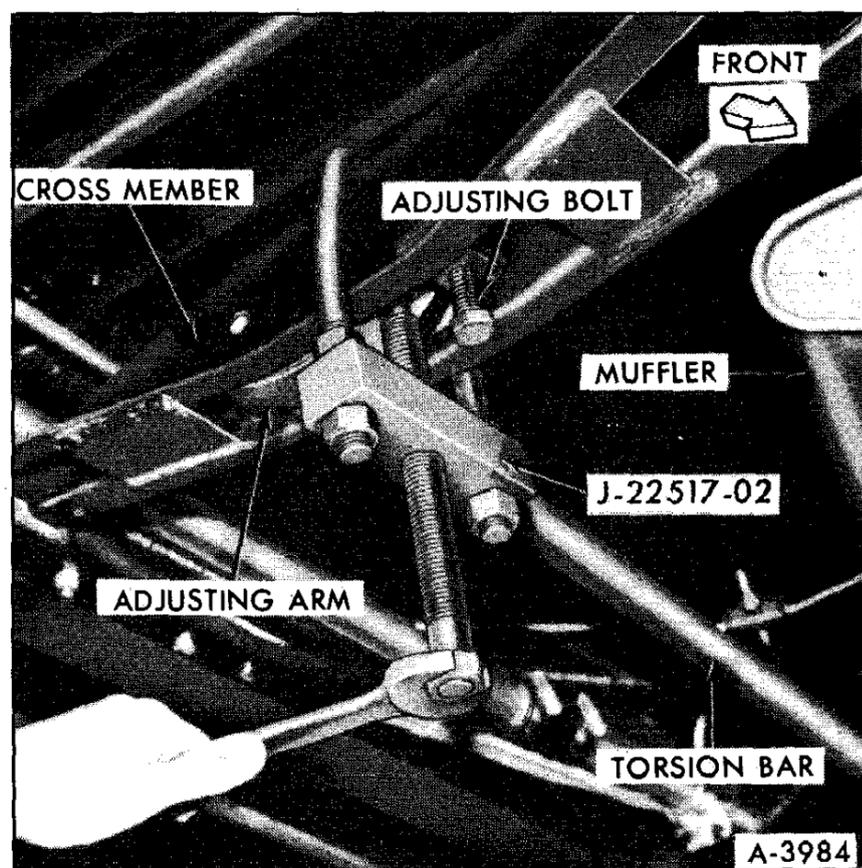

Figure 20—Removing Torsion Bar
3. Turn center screw until seated in dimple of torsion bar adjusting arm. See figure 20.
11. Turn center screw until adjusting arm is in a position to allow installation of adjusting nut. See figure 20.
**NOTE:** Tool J-22517-02 (shown in figure 20) must be used the reset ride height. This tool will raise or lower the torsion bar rear anchor arm so that the adjusting bolt is not loaded.